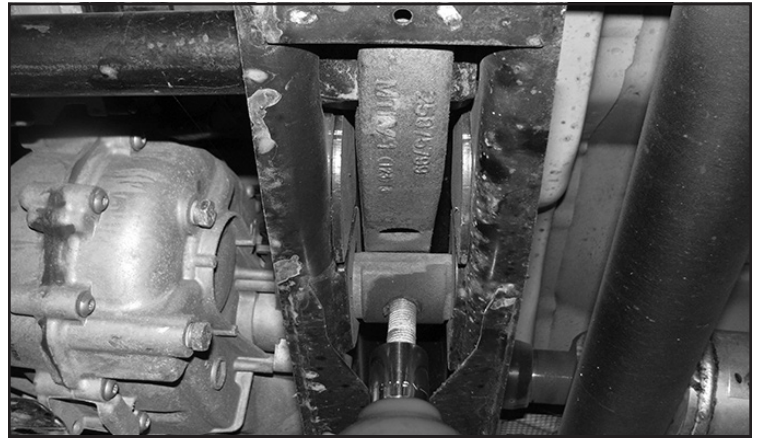

FIGURE 3 - STEP 3
3. Locate and remove the torsion bar adjusting bolts. Save for re-installation. **SEE FIGURE 3**